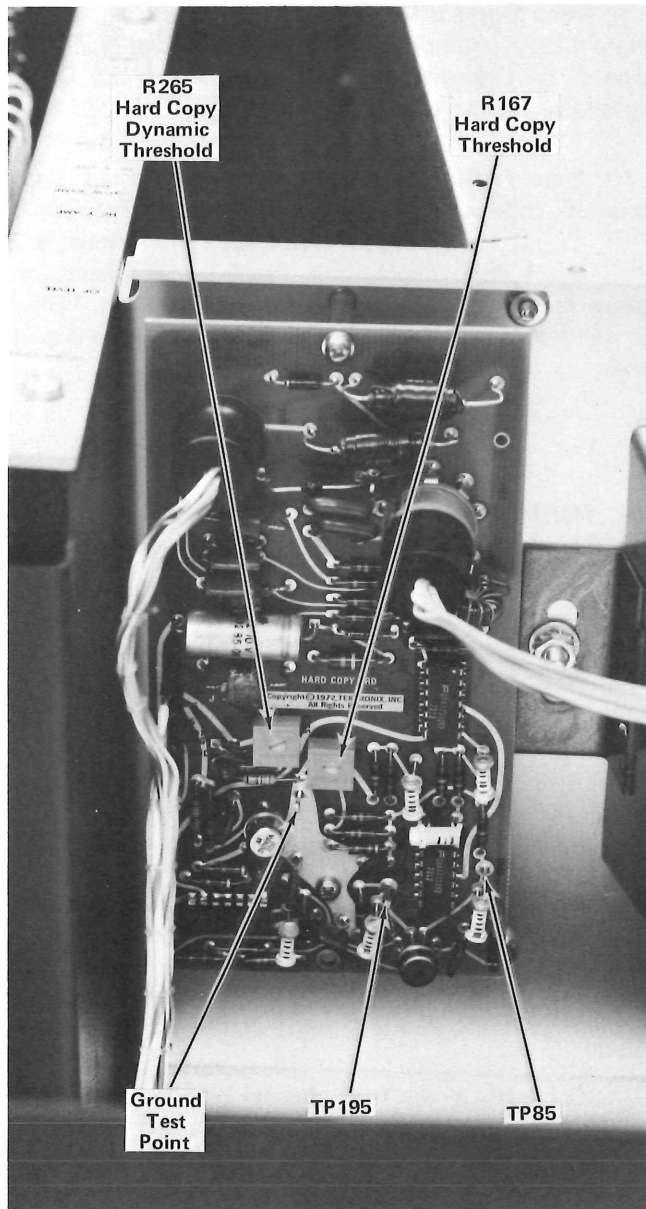
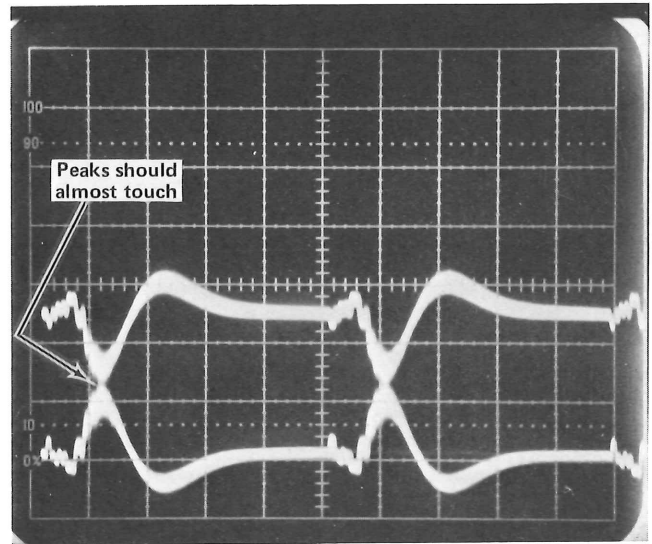

Fig. 4-16. Hard Copy threshold adjustment and test point locations. Location within the display unit is shown in Fig. 4-14.
Fig. 4-17. Hard Copy Threshold adjustment waveform. 0.5 V/division vertical; 0.5  $\mu$ s/division horizontal.
c. Connect a probe from channel 1 of the oscilloscope to TP85 on the Hard Copy Amplifier board (Fig. 4-16). Connect the probe ground lead to the ground test point on the board.
d. Connect a probe from channel 2 of the oscilloscope to TP195 on the Hard Copy Amplifier board (Fig. 4-16). Connect the probe ground lead to ground on the board.
e. Press PAGE and then press MAKE COPY and check for an oscilloscope display as in Fig. 4-17. The peaks of the most prominent pulses should almost touch.
f. Adjust R167—Hard Copy Threshold (on the Hard Copy Amplifier board, Fig. 4-16) until the peaks almost touch as in Fig. 4-17. The separation may vary with the vertical position of the scan bar on the screen. If so, adjust for minimum separation of the closest pulses.
- c. Press MAKE COPY and adjust R265, Dynamic Threshold Adjust (Fig. 4-16) until the separation between the pulse peaks remains fairly constant as the Hard Copy bar scans. The appearance may change with the vertical position of the scan bar; in that case, adjust for the best compromise.